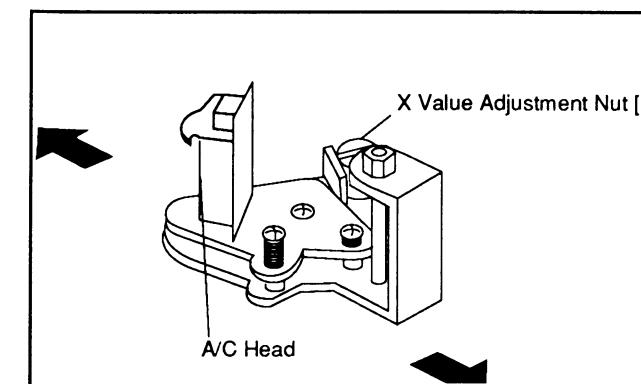

Fig. M9
4. Adjust X Value adjustment Nut [D] with the X Position Adj-Fixture so that the PB FM signal at the TP of C-PB or at the TP of A-OUT is maximum. (Fig.M9)